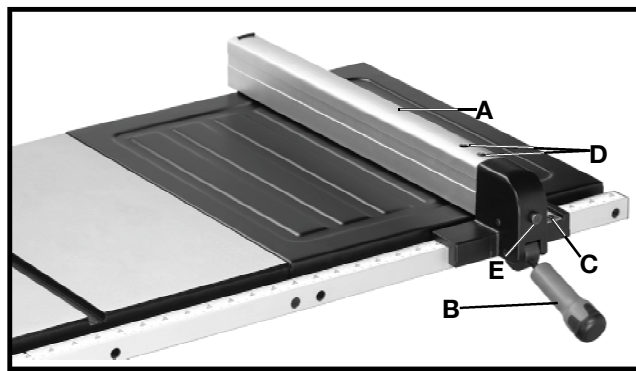

Fig. 40
1. To move the rip fence (A) Fig. 40, along the table, lift up fence locking lever (B), slide the fence to the desired location on the table and push down fence locking lever (B) to lock the fence in position.
2. A pointer is supplied to indicate the distance the fence is positioned away from the saw blade. If an adjustment to the pointer is required, loosen the screw (C) Fig. 40, that fastens the pointer to the fence bracket and adjust the pointer accordingly. Then, tighten screw (C).
7. Loosen the two screws (D) Fig. 40, and lift up locking lever (B). Then while holding the fence bracket firmly toward the front of the saw, move the rear end of the fence (A) until it is parallel with the miter gage slot. Then tighten two screws (D) and push down locking lever (B).
8. The clamping action of the fence (A) Fig. 40, can be adjusted by lifting up locking lever (B) and turning screw (E) clockwise to increase or counterclockwise to decrease the clamping action of the fence.